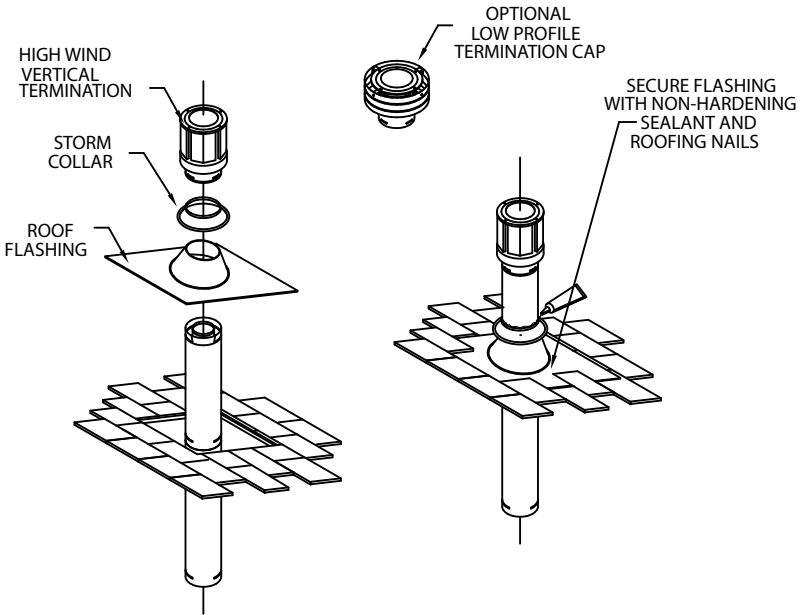

Figure 18
Secure the base of the Roof Flashing to the roof with roofing nails. Ensure the roofing material overlaps the top edge of the Roof Flashing (Fig. 18). Verify that you have at least the minimum clearance to combustibles at the roofline and in the attic.
**Step 9.** Slip the Storm Collar over the Pipe Section, and push it down to the top of the Roof Flashing (Fig. 18). Use non-hardening sealant between the Storm Collar and the Pipe Section.